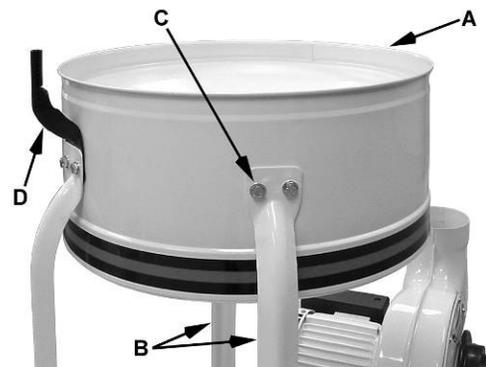
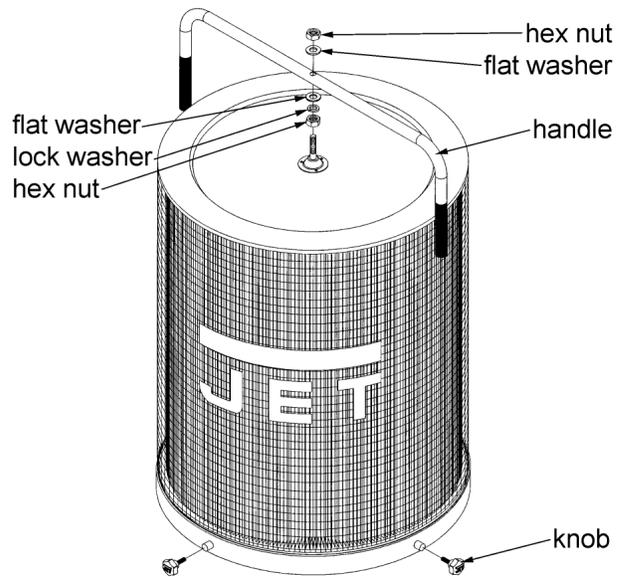

Figure 5
Figure 9
6. Install the *housing* (A, Fig. 5) to two *support legs* (B, Fig. 5) using four M8 x 16 hex cap bolts, eight M8 flat washers, and four M8 hex nuts (C, Fig. 5). *Be sure hose opening faces fan housing.*
Note: For models DC-1200BK or DC-1200-3BK only – Before attaching third support bracket place the *hanger bracket* (D, Fig.5) between the support bracket and the housing.
1. Mount the handle onto the canister filter with two M10 hex nuts, two M10 flat washers, and a M10 lock washer (Figure 9).
2. Mount the canister filter on top of the *collector housing* (A, Fig. 5) and tighten the knobs on the *canister filter* (Figure 9).